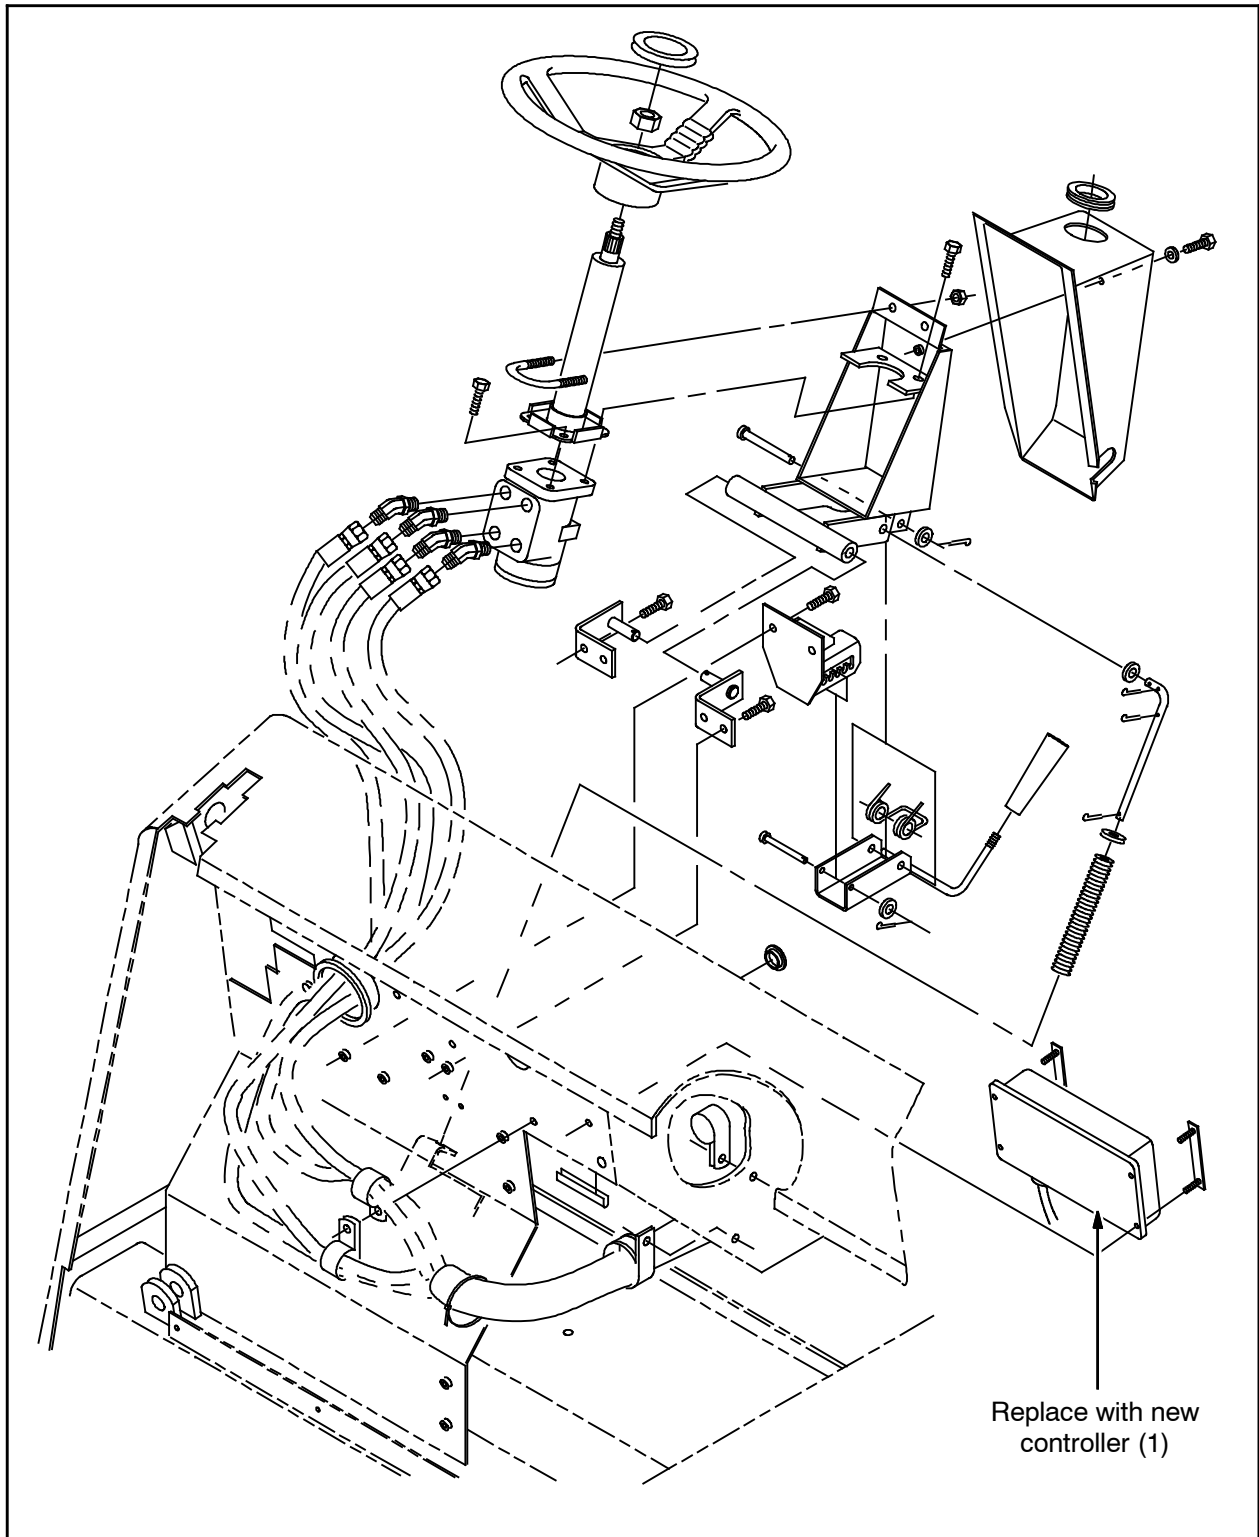

FIG. 3 - 355 Controller Location LP / Gas / Diesel
5. Locate the old controller to the left of the steering column in the operator compartment. (Fig. 3)
7. Remove the controller from the machine and discard the controller. Set the mounting hardware aside. (Fig. 3)
8. Set up the controller (1). Refer to the **SET UP NEW DIGITAL CONTROLLER** instructions for information to setup the controller.
9. Connect the main wire harness to the new controller (1). Do not secure the controller to the machine. The controller is secured to the machine after it is tested.
13. Install the controller into the machine. (Fig. 3)